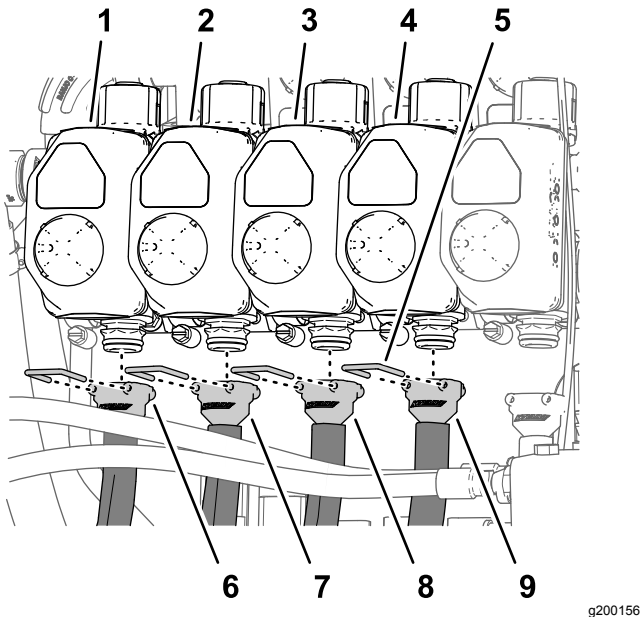
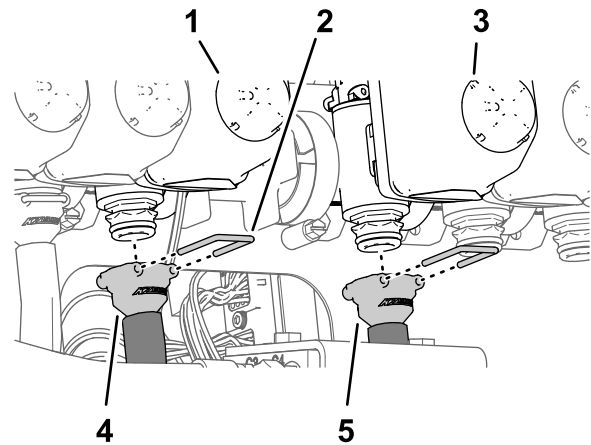
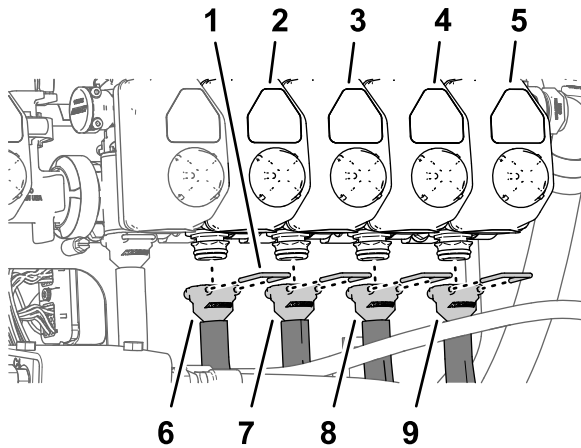

Figure 125
Figure 126
Figure 127
Note: Refer to Figure 125 in Assembling the Hoses to Nozzle Valves 1 through 4 (page 59), Figure 126 in Assembling the Hoses to Nozzle Valves 5 and 6 (page 59), and Figure 127 in Assembling the Hoses to Nozzle Valves 7 through 10 (page 60) for the nozzle-valve positions.
1. Assemble the straight barbed fitting of a supply-hose 279 cm (110 inches) onto the coupler of nozzle valve 1 (Figure 125).
2. Secure the barbed fitting to the coupler with a retainer (Figure 125).
3. Assemble the straight barbed fitting of a supply-hose 234 cm (92 inches) onto the coupler of nozzle valve 2 (Figure 125).
4. Secure the barbed fitting to the coupler with a retainer (Figure 125).
5. Assemble the straight barbed fitting of a supply-hose 188 cm (74 inches) onto the coupler of nozzle valve 3 (Figure 125).
6. Secure the barbed fitting to the coupler with a retainer (Figure 125).
7. Assemble the straight barbed fitting of a supply-hose 188 cm (74 inches) onto the coupler of nozzle valve 4 (Figure 125).
8. Secure the barbed fitting to the coupler with a retainer (Figure 125).
1. Assemble the straight barbed fitting of a supply-hose 81 cm (32 inches) onto the coupler of nozzle valve 5 (Figure 126).
2. Secure the barbed fitting to the coupler with a retainer (Figure 126).
3. Assemble the straight barbed fitting of a supply-hose 81 cm (32 inches) onto the coupler of nozzle valve 6 (Figure 126).
4. Secure the barbed fitting to the coupler with a retainer (Figure 126).
1. Assemble the straight barbed fitting of a supply-hose 188 cm (74 inches) onto the coupler of nozzle valve 7 (Figure 127).
2. Secure the barbed fitting to the coupler with a retainer (Figure 127).
3. Assemble the straight barbed fitting of a supply-hose 188 cm (74 inches) onto the coupler of nozzle valve 8 (Figure 127).
4. Secure the barbed fitting to the coupler with a retainer (Figure 127).
5. Assemble the straight barbed fitting of a supply-hose 234 cm (92 inches) onto the coupler of nozzle valve 9 (Figure 127).
6. Secure the barbed fitting to the coupler with a retainer (Figure 127).
7. Assemble the straight barbed fitting of a supply-hose 279 cm (110 inches) onto the coupler of nozzle valve 10 (Figure 127).
8. Secure the barbed fitting to the coupler with a retainer (Figure 127).